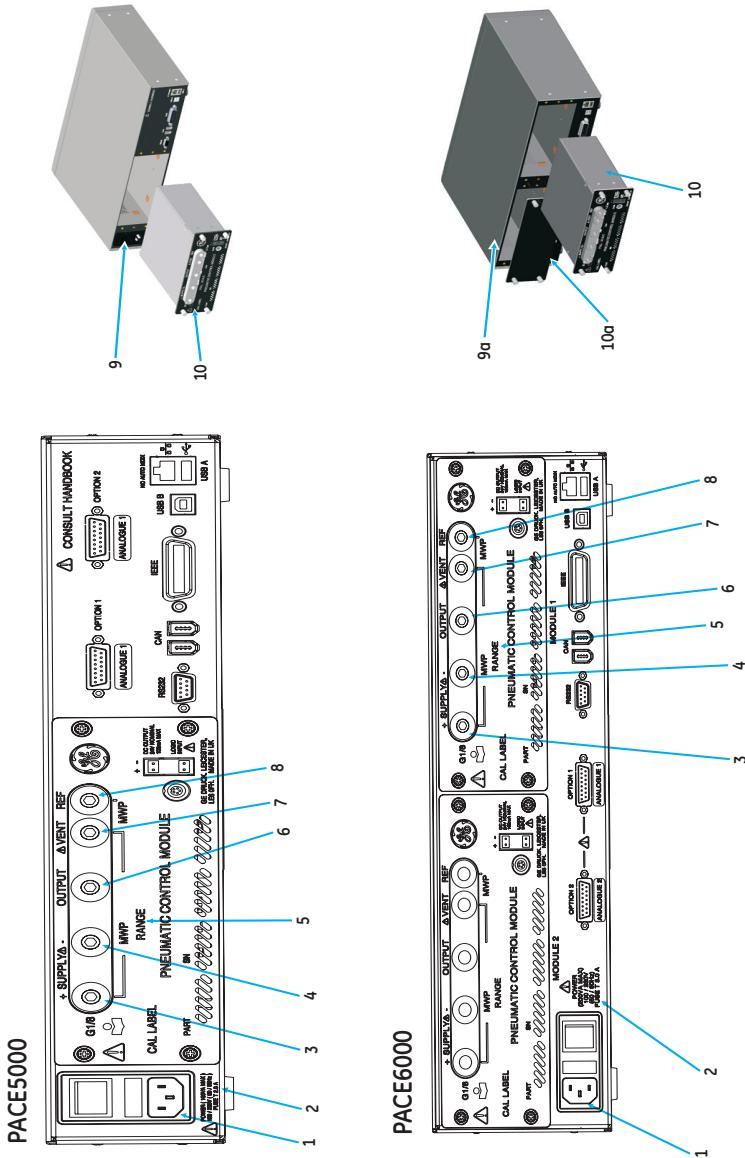

Figure 1
Key to Figure 1
- Do not apply pressures above the Maximum Working Pressure (MWP) stated on the rear panel (Ref: Figure 1, item 5).
- Do not apply electrical power above the maximum values stated on the rear panel (Ref: Figure 1, item 2).